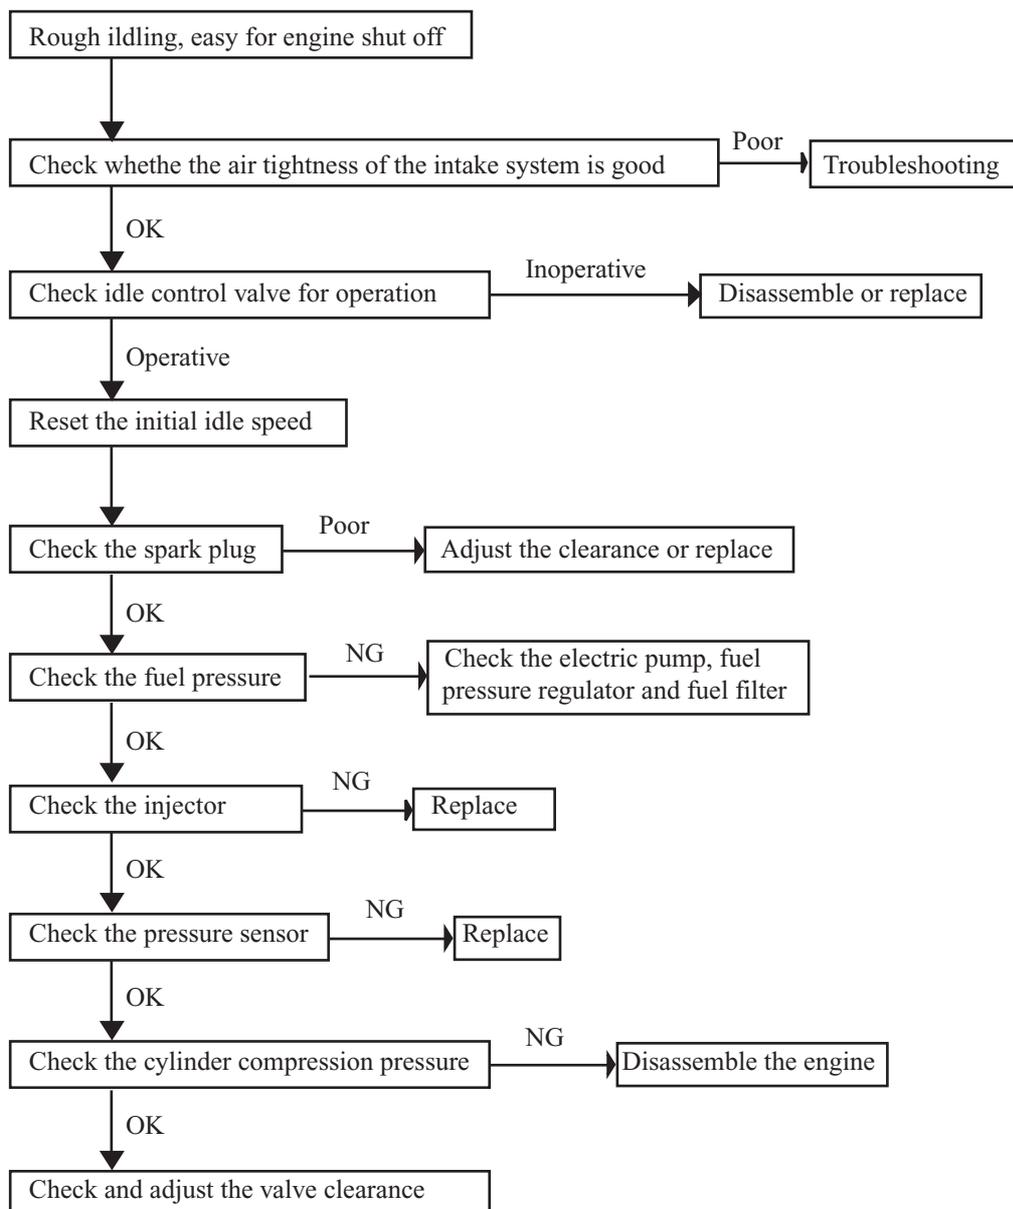

Figure 152
##### (3) Diagnosis procedure (Figure 152)